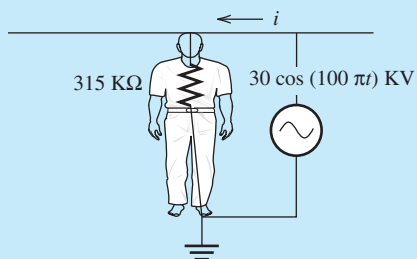
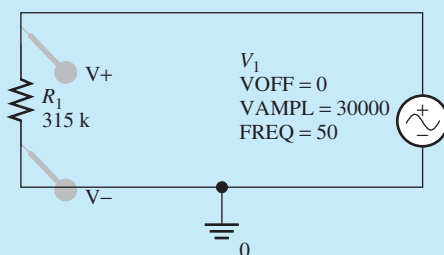

FIGURE 2.85 The equivalent circuit for Example 2.24.
FIGURE 2.86 PSpice schematic circuit for Example 2.13.
Consider the unfortunate bald utility worker of Example 2.13 who climbs an aluminum ladder with bare feet and comes into contact with an overhead power line bearing $30 \cos(100\pi t)$ kV (Figure 2.86). The worker’s body resistance is $315 \text{ k}\Omega$. This situation can be modeled as a resistor (his body) connected between the terminals of a power supply (the wire) (Figure 2.85). How much current flows through his body? If the minimum current needed for a shock to be fatal is 100 mA , does the worker survive?
1. Instead of using the Direct Current Voltage Source, a sinusoidal voltage source has been chosen. The sinusoidal voltage source for PSpice can be obtained by typing “VSIN” in the “Place Part” window; its amplitude and frequency are set as shown in Figure 2.86.